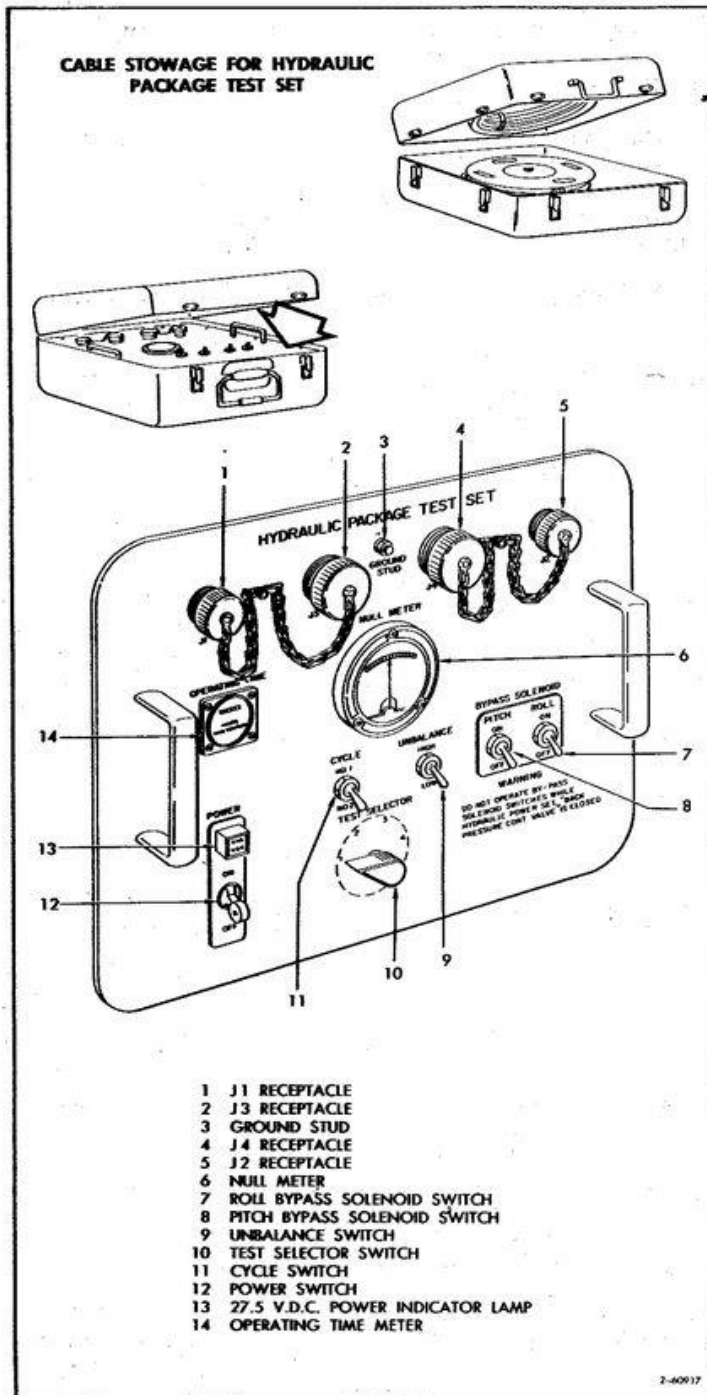

Figure 3-6. Hydraulic Package Test Set
- a. Obtain Hydraulic Package Test Set (figure 3-6) and position it near Nose Section on right side of Launch Bay.
- c. Connect HPTS static ground cable between GROUND STUD (3) on test set and convenient ground.
- e. Insure that POWER switch (12) is OFF.
- f. Connect HPTS power cable between J1 (1) on test set and J9004 on Umbilical Outlet Box.
- g. Connect HPTS signal cable (no. 1) between J2 (5) on test set and J8688 in Missile.
- a. Place POWER switch (12, figure 3-6) on Hydraulic Package Test Set ON; 27.5 V. D. C. POWER lamp (13) must go on.
- c. Rotate TEST SELECTOR switch (10) to position 1.
- d. At request of Mechanic No. 4, place ROLL BYPASS SOLENOID switch (7) ON.
- g. At request of Mechanic No. 4, place PITCH BYPASS SOLENOID switch (8) ON.
a. Place POWER switch (12, figure 3-6) on Hydraulic Package Test Set OFF.
b. Disconnect HPTS signal cable (no. 3) from between J4 (4) of test set and P8621 of Missile harness.
c. Disconnect HPTS signal cable (no. 2) from between J3 (2) of test set and P8616 of Missile harness.
f. Disconnect HPTS signal cable (no. 1) from between J2 (5) of test set and J8688 in Missile.
h. Disconnect HPTS power cable from between J1 (1) of test set and J9004 of Umbilical Outlet Box.